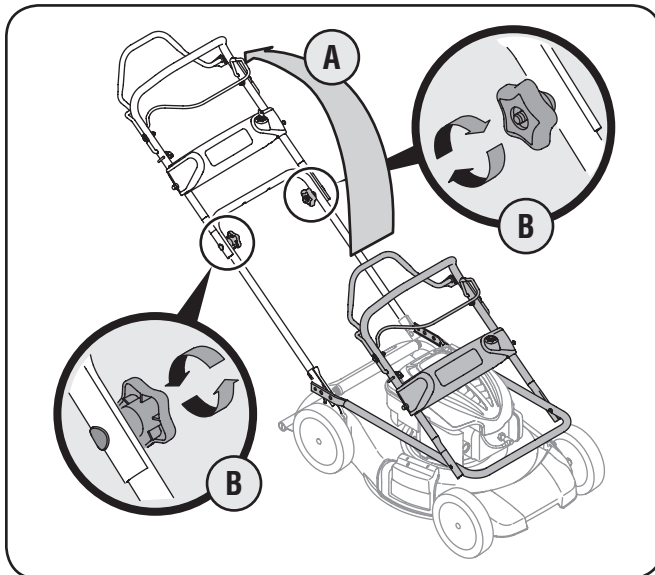

Figure 3-1
- a. Carefully pull up and back on upper handle as shown in Fig. 3-1. Do not crimp cable while lifting the handle up and be careful to not catch battery box on engine shroud.
- b. Tighten star knobs securing upper handle to lower handle. See Fig. 3-1. Make sure that each carriage bolt is seated properly in the handle.